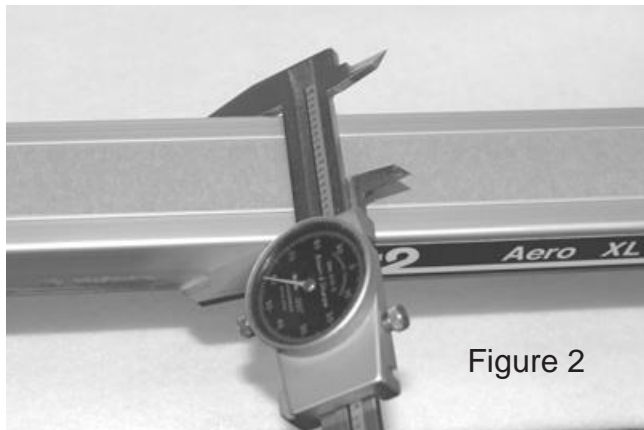

Figure 2
- 2- Measure the width of the ski with a vernier as shown in Figure 2 and divide by 2 to obtain the center. (If you don't have a vernier you can use a ruler, but it is less accurate.)